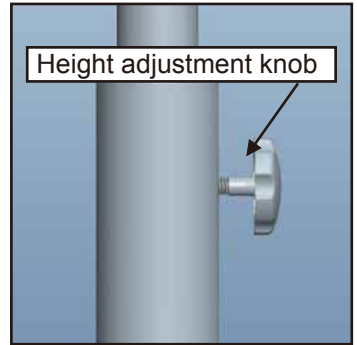

Figure 4.
4. Unscrew the **Height Adjustment Knob** counter-clockwise, *Figure 4*.